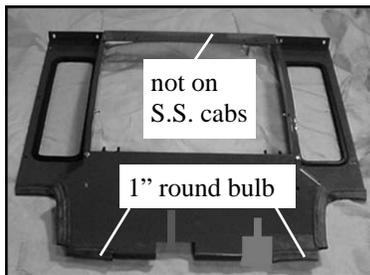

Fig. 2.1
- 2.1 Pre-assemble lower rear panel, rear legs, and rear window support using a total of eight (8) button head screws. (Note: the soft side version does not have a rear window support). See fig. 2.1 for the all steel pre-assembly. To attach the rear window support, use four 5/16" button head screws, steel washers, and nylon washers. To attach the lower rear panel, use four 5/16" button head screws, steel washers, nylon washers, and locknuts.
- 2.2 Install two (2) pieces of 1" round bulb rubber (28" long) on three (3) edges per side as shown in fig. 2.1.